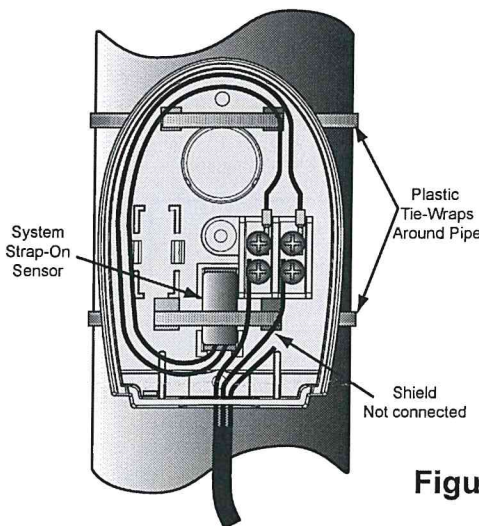

Figure 3
- Use the provided tie-wraps to hold the sensor and base in place while tying it to the pipe as shown in Figure 3.
- Connect the sensor wires to the upper terminals as shown in Figure 3.